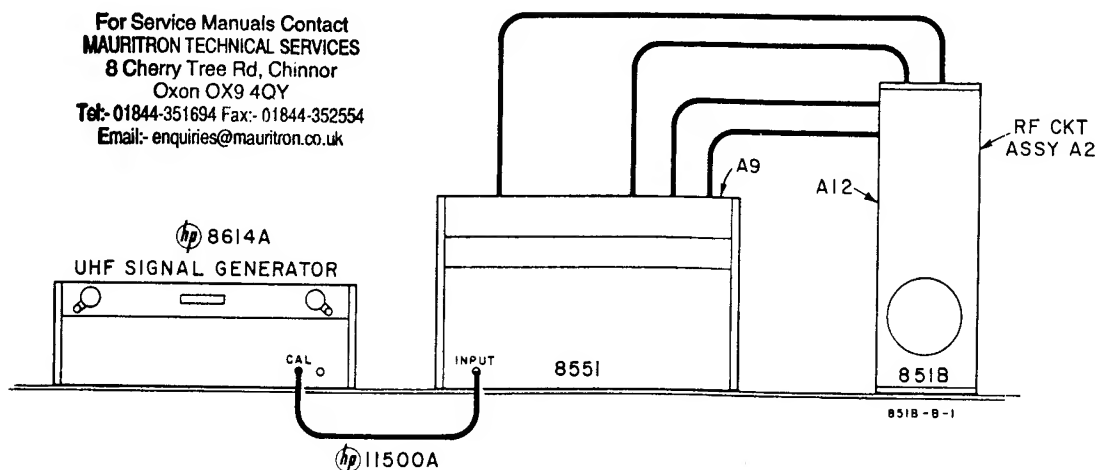

Figure 5-9. Measurement Setup, Final I. F. Bandwidth Adjustments
- a. Setup. Remove top and bottom covers from 851 and top cover from 8551; connect as indicated in Figure 5-9.
- (1) 8551:
5-129. ADJUSTMENT LOCATIONS. Location of Bandpass Filter Assembly A12 in top of 851 is shown in Figure 5-8, and that of Converter Assembly A9 in top of 8551 is indicated in Figure 5-9. Both assemblies are housed in castings, and each provides access to adjustments through holes in top cover plate.